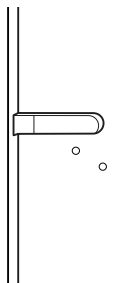

Figure 1
- Locate the marked holes on back side of the door (fig. 1)